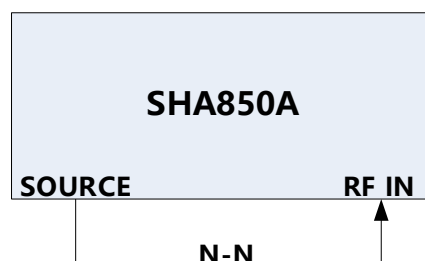

Figure 3-10 Connecting test instruments for TG Output
1. Connect RF IN port and SOURCE OUT port by a N-N cable as figure 3-10 shows